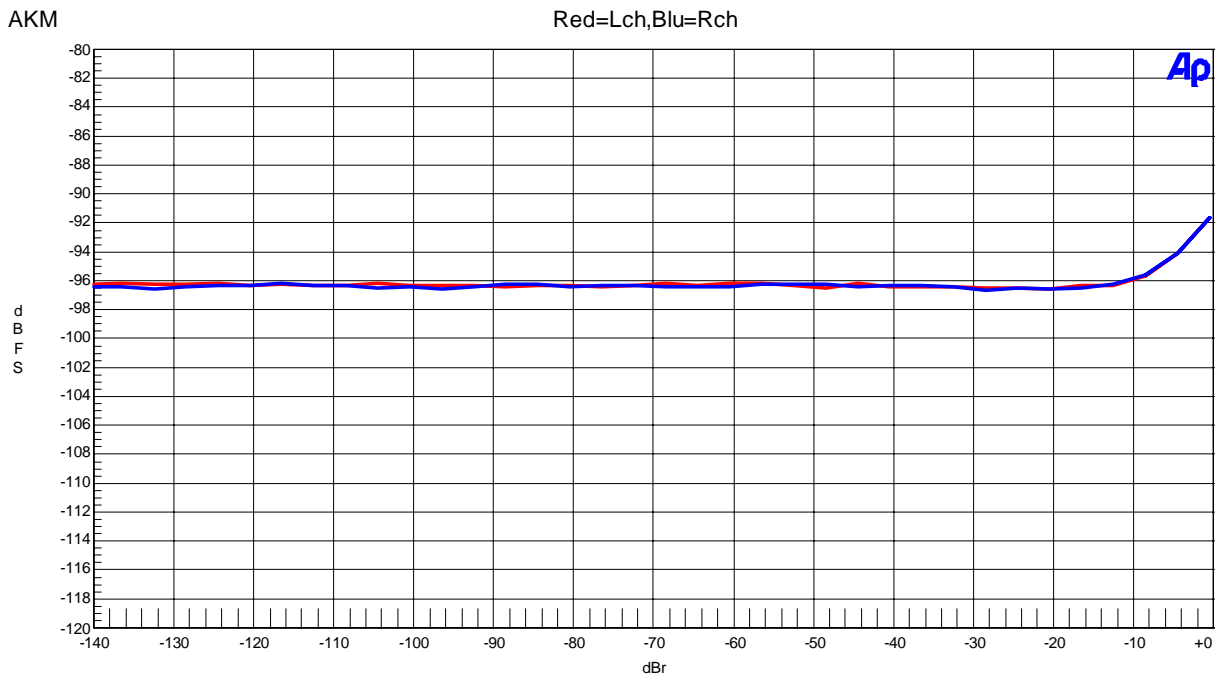

Figure 12. THD + N vs Input Level (Input Frequency=1kHz)
- Figure 12. Linearity (Input Frequency =1kHz)